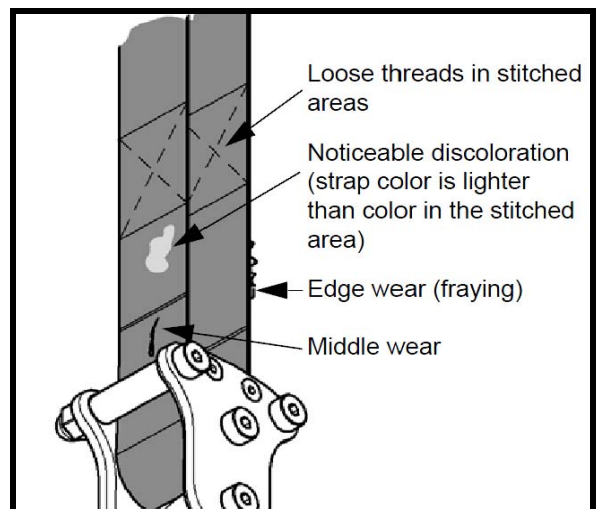

Fig. 2
- 2) Look for any signs of wear or discoloration (see Fig. 2).